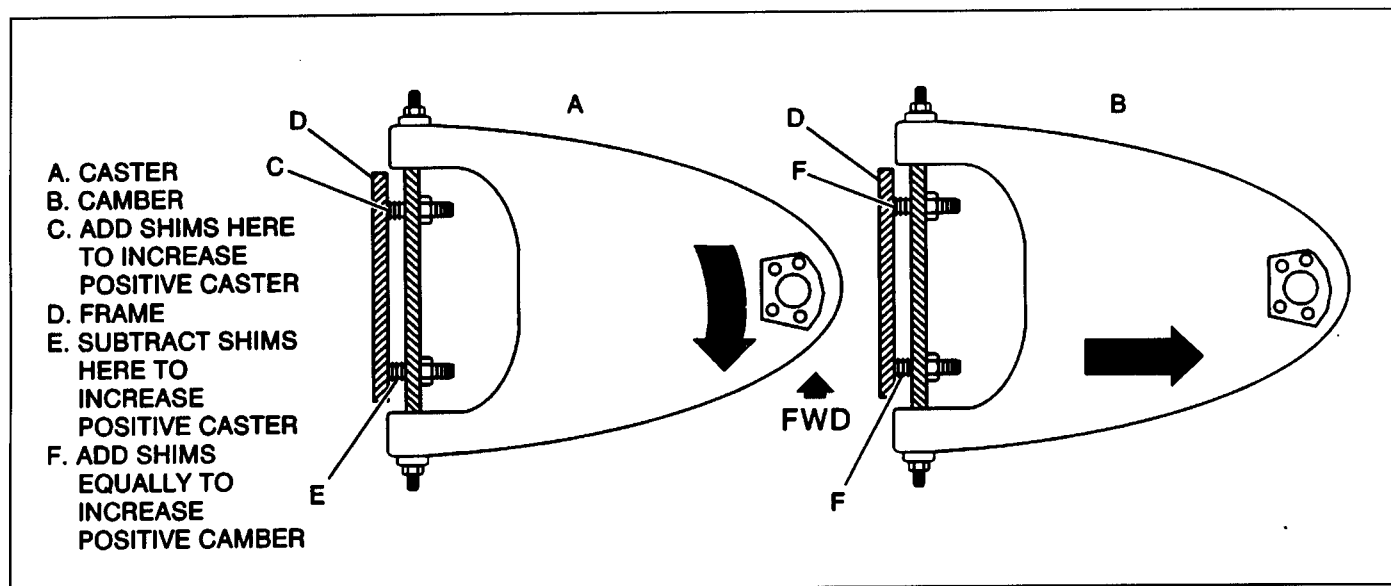

Figure 4—Caster-Camber Adjustment
6. If the actual (corrected) caster angle (Step 5) is not within the recommended caster angle, make the necessary shim changes (Figure 4).
2. Add or subtract shims from both the front and rear bolts to effect a change (Figure 4).